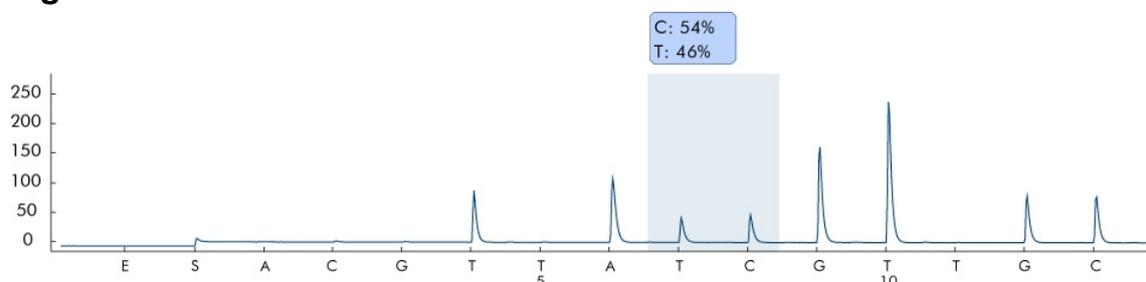

Figure 7. Pyrogram of Run 2.
49. Open the run in the PyroMark Q24 MDx Software and analyze all wells. The peak pattern for Run 2 should look like the one in Figure 7.